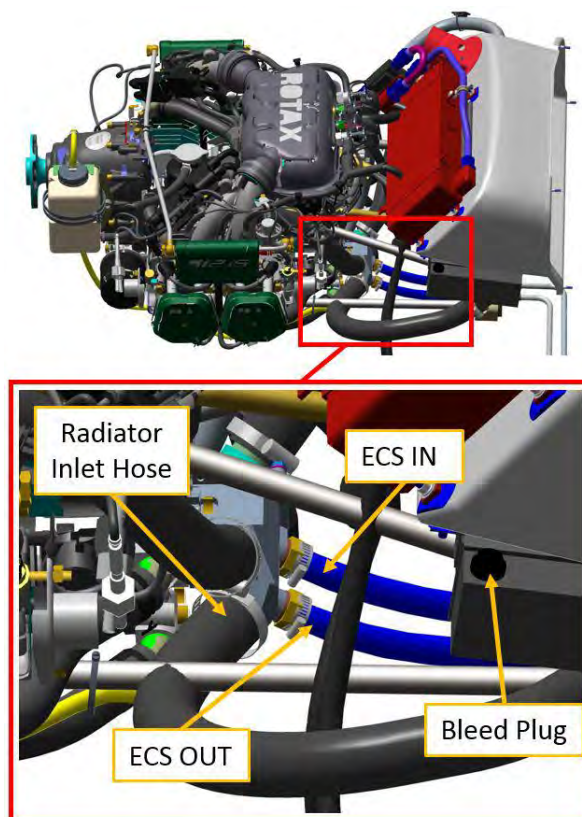

FIGURE 17-33
- a. Locate the radiator hose that connects the coolant thermostat to the radiator inlet (see Figure 17-33). Loosen the radiator hose clamp at the thermostat and pull the hose off the thermostat housing.
- a. Locate the two ECS hoses where they attach to the forward face of the thermostat.(See Figure 17-33)
7. Remove the bleed plug on the top-right-aft corner of the radiator with a 3/16 hex wrench (see Figure 17-33).